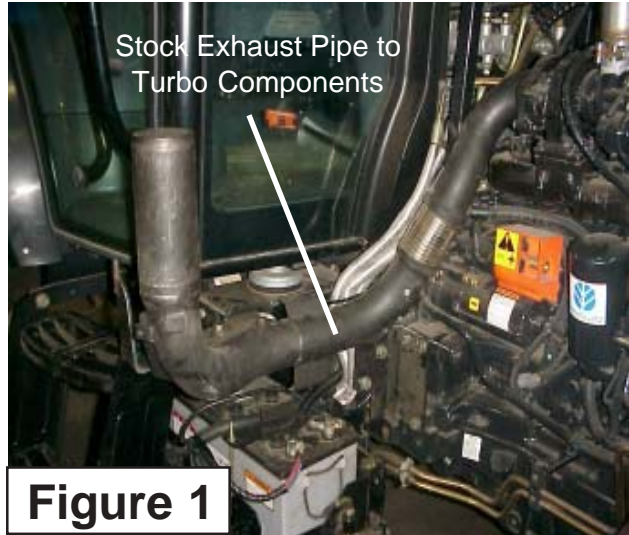
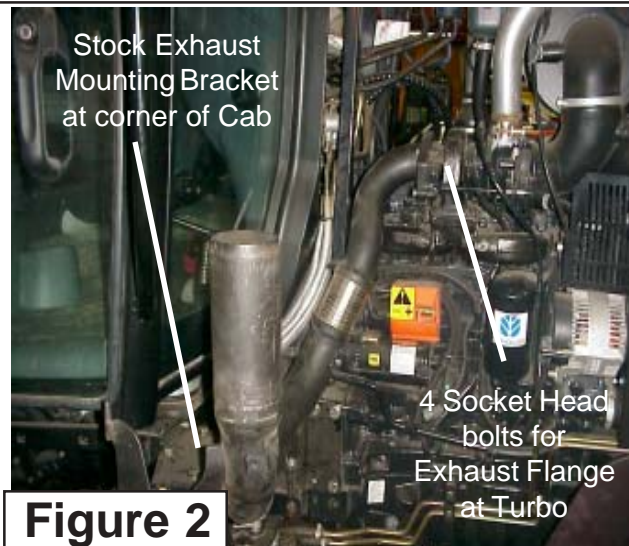

Figure 1
Figure 2
3. Remove Existing Exhaust Pipe to Turbo & Existing Exhaust Mounting Bracket. There are four socket head bolts that hold the exhaust flange to the turbo, these will need to be removed completely. There is a stock mounting bracket located at the outer corner of the cab that supports the exhaust pipe. This bracket will be removed also. (See Figure 2). Lay the Bracket and exhaust pipe aside as the kit will include replace Pipe, Bracket and Fasteners.
1. Remove the New Holland Factory Fuel Tank From Tractor. Drain all the fuel from the fuel tank with an approved pump or other device. Store fuel in an approved area. Remove the factory fuel tank. It is somewhat easier if the left rear tire & wheel are removed but it is not required. Some Tractors come with an optional Fuel Tank Protection Plate under tank, if you have this plate it will not be used with the Alamo Industrial replacement tank. (See Figure 1).
- 1. Assemble Brackets & Magnetic Switches.** Locate the Magnetic switch mounting bracket, dual wings there will be two of these (See Figure 1). If Dual wings the two brackets will have the switches mounted on the opposite side (See Figure 2). Once these have the switches bolted on lay the brackets aside for now. (See Figure 20)